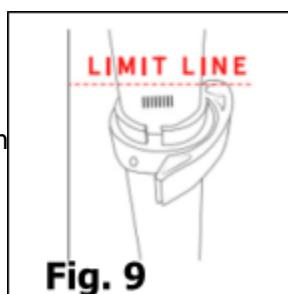

Fig. 9
1. Open the seat post quick-release lever (Fig. 9).